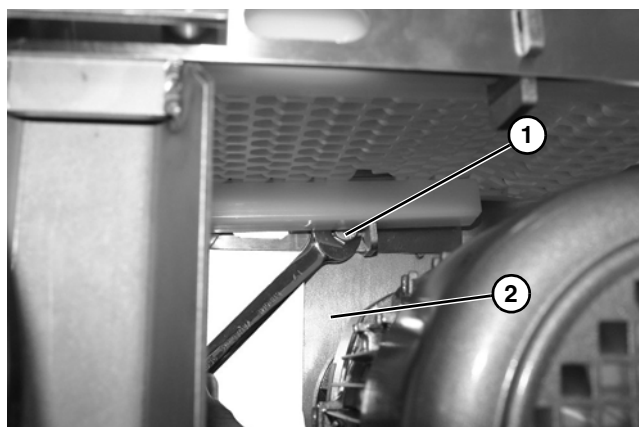

Figure 5
4. Insert bolt (**Figure 5, item 1**) through backside of conveyor into threaded hole in mounting bracket (**Figure 5, item 2**).